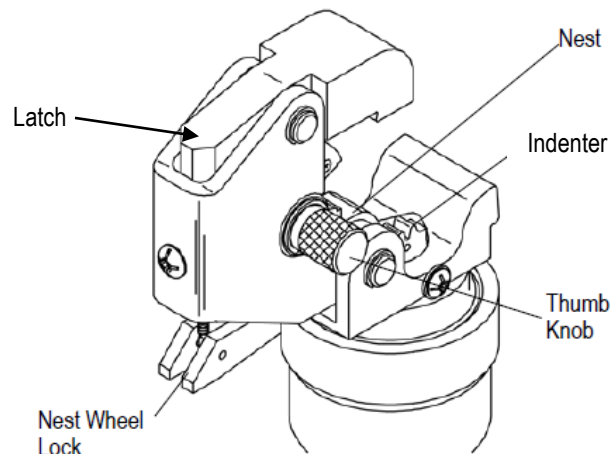

Figure 2
4. NEST SELECTION (FIGURE 2)
1. Depress the latch and open the crimping head as shown in Figure 2.